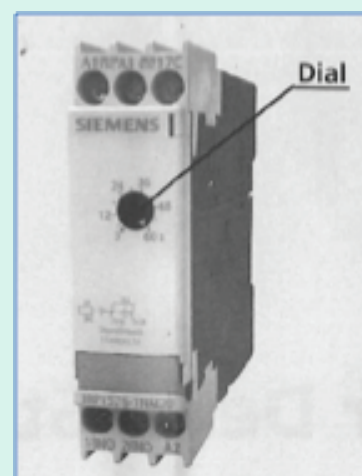

Fig. 5: Timer Adjustment
- Stop the motor. Set the timer to this measured value by rotating the dial shown in Fig. 5.